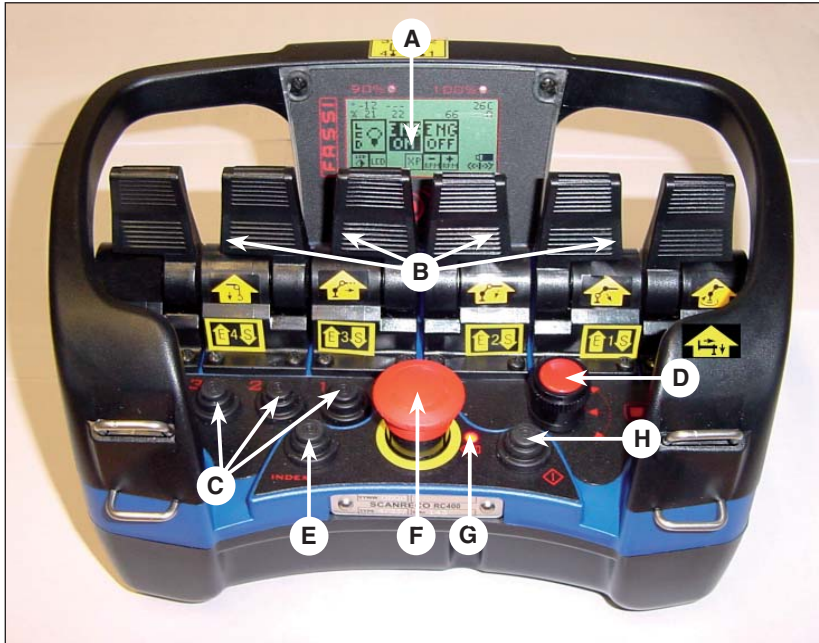

fig. 9
Each push-button panel element is identified with letters of the alphabet as shown in figures 9 - 10 - 11 - 12 - 13 : check the list down below to get the meaning of each element.
2. Push at the same time the "E" and "H" buttons (fig.9).
4. Wait approx. three (3) minutes to allow loading of all the icons on the display. When the display shows "Icons updated please power off", switch off and restart the radio remote control panel.